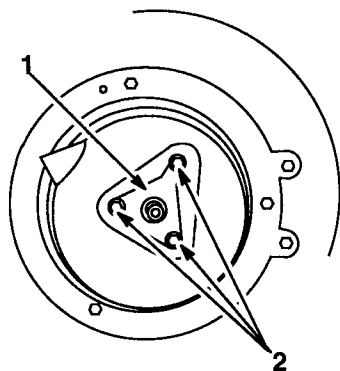

Figure 32
4. Remove bolts attaching muffler and crankshaft support (Fig. 32).